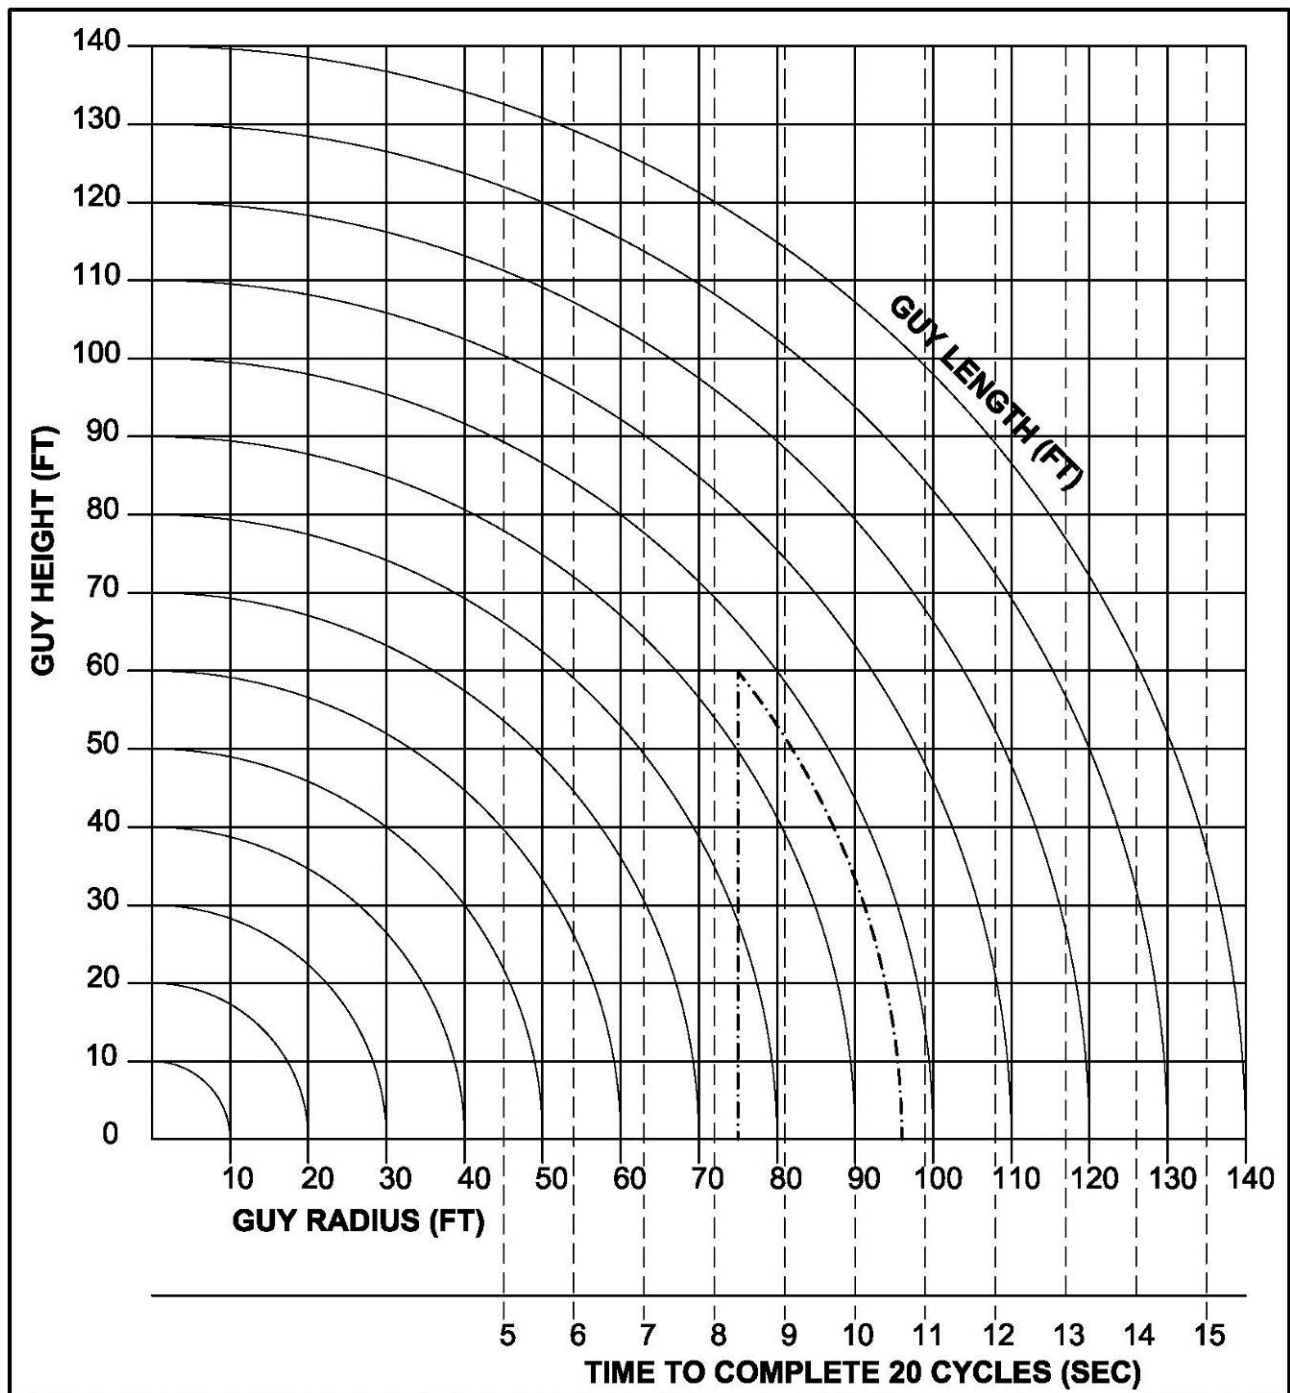

Figure 12: Graph to Determine Natural Frequency of Guy Cables
**Figure 12** is a useful graph for determining both guy cable length and time required for 20 oscillations at proper natural frequency and tension. Instructions for use of the graph, including an illustrated example, are included with the graph. Note that the graph in **Figure 12** is for use on relatively flat topography.